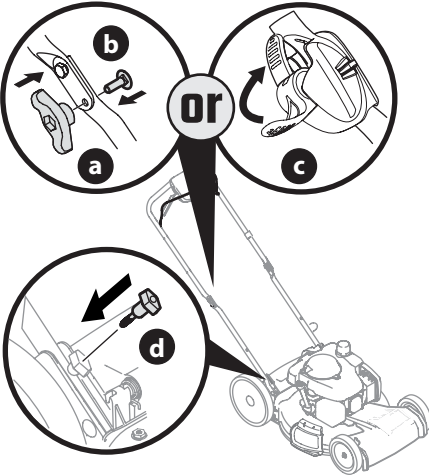

Figure 8
4. Reattach knobs or wing nuts (a) and carriage bolts (b) removed in STEP 2 into lower holes of the handle or lock the EZ-fold handle release levers (c) (Figure 8).
5. Using the T-bolts (d) removed in STEP 2, secure the lower handle to the handle brackets (Figure 8) and tighten securely to secure the handle in place.